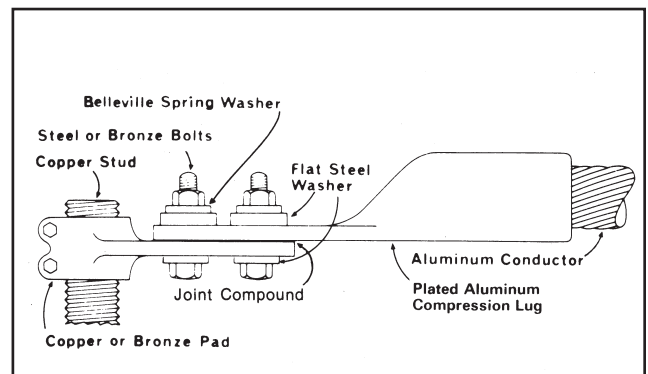

Figure 15
- When using aluminum bolts and nuts, only a heavy flat washer, bearing on the aluminum lug is necessary as shown in Figure 15, or